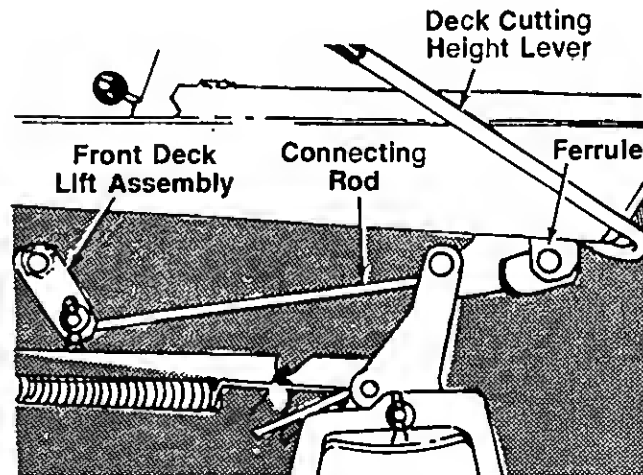

FIGURE 23.
2. Remove the hairpin clip and flat washer which hold the deck lift connecting rod to the front deck lift assembly. See figure 23.
3. Remove the connecting rod from the deck lift assembly and thread it in or out of the ferrule as necessary. See figure 23. Replace the rod.